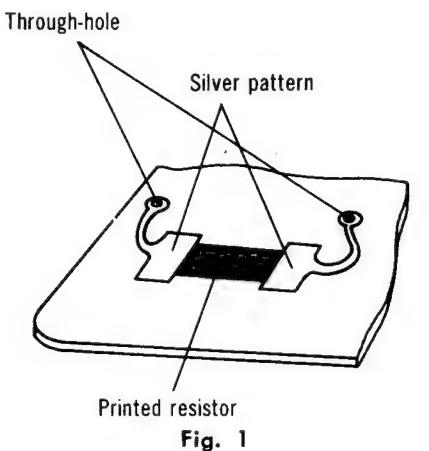

Fig. 1
- The printed resistor is located on the printed circuit board as illustrated in Fig. 1.